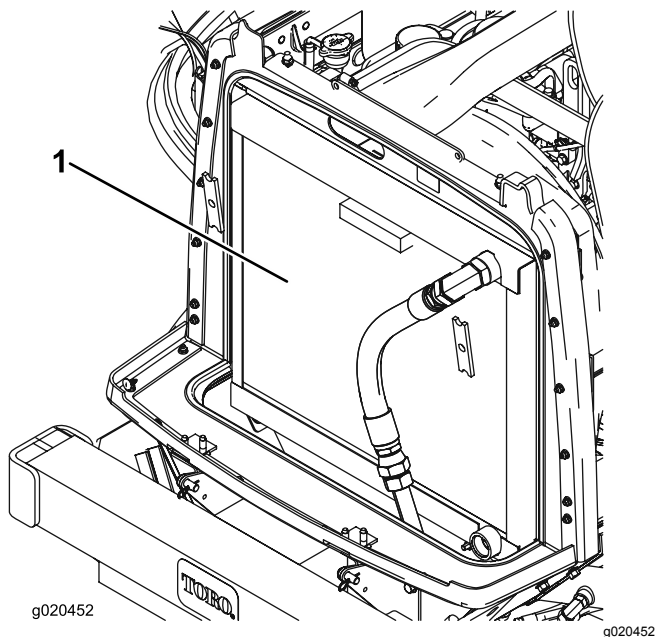

Figure 92
2. Clean both sides of the radiator/oil cooler area (Figure 92) thoroughly with compressed air. Start from the fan side and blow the debris out towards the back. Then clean from the back side and blow towards the front. Repeat procedure several times until all chaff and debris is removed.